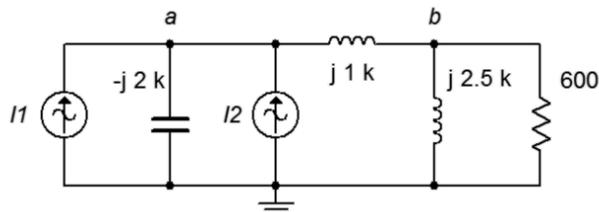

Figure 4.17
27. For the circuit of Figure 4.17, determine the current through the capacitor.  $I_1 = 10E-3\angle 0^\circ$  A and  $I_2 = 3E-3\angle 90^\circ$  A.
28. For the circuit of Figure 4.17, determine voltages  $v_a$  and  $v_b$ .  $I_1 = 10E-3\angle 0^\circ$  A and  $I_2 = 3E-3\angle 90^\circ$  A.